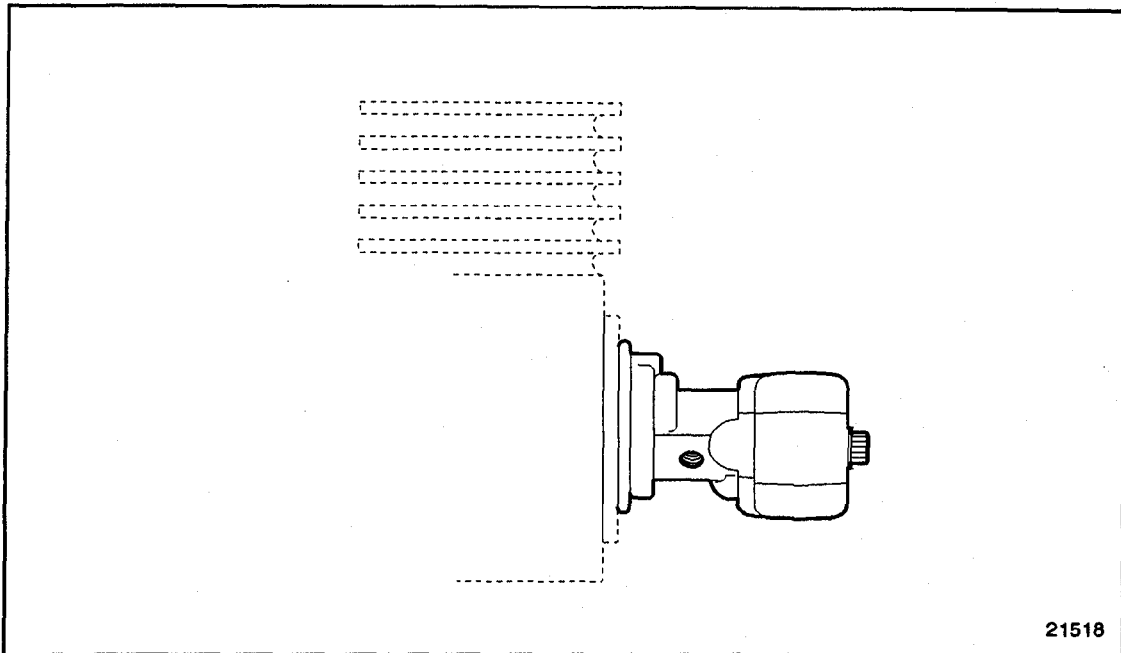

Figure 17-4 Fuel Pump Flange Drain Hole Location
1. Insert a piece of wire through the pump flange drain hole, see Figure 17-4.